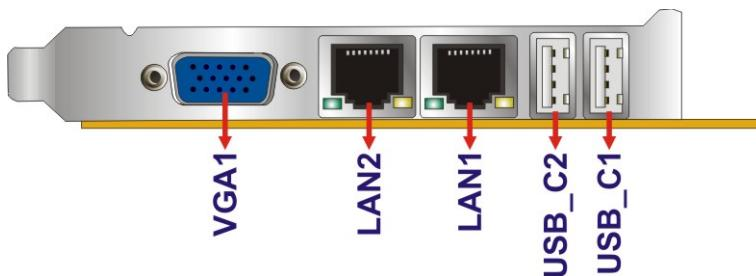

Figure 3-30: External Peripheral Interface Connector
**CN Location:** See **Figure 3-30**